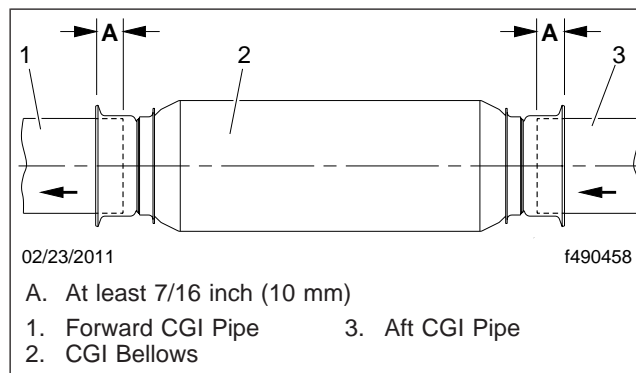

Fig. 5, CGI Bellows Installation
12. Slide the new bellows onto the aft CGI pipe as far as it will go. See Fig. 5, Ref. A. Measurement A should be at least 7/16 inch (10 mm) past the face of the flange.
16. Using the yellow marks, center the bellows between the exhaust pipes. Verify that the pipe is inserted at least 7/16 inch (10 mm) past the face of the flange. See **Fig. 5**, Ref. A.